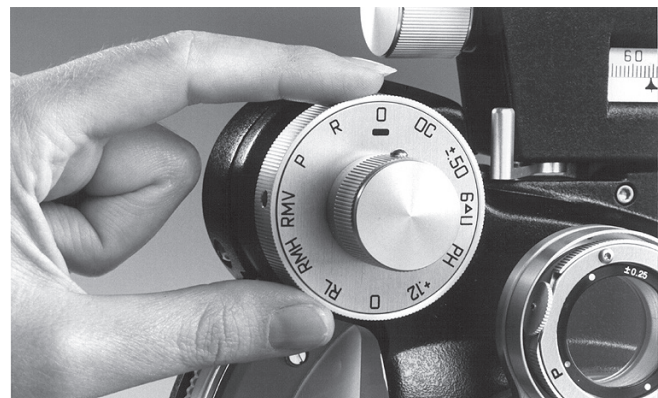

Figure TM-4 Rotating Strong Sphere Control
5. However, high power may also be introduced quickly and easily by means of the Strong Sphere Control when desired. Refer to Figure TM-4.